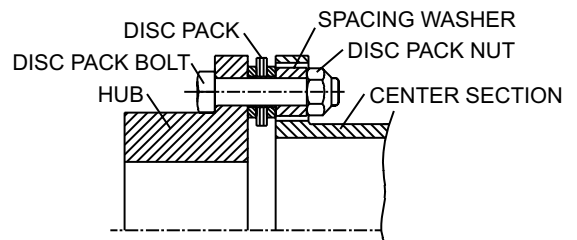

Figure 5. Bolt Disc Pack to Hub
- 5.2 Insert the disc pack bolt into the reamed hole of the hub and through the disc pack bushing. See Figure 5. The flat of the bolt head will act as a bolt lock with the hub body. Make sure the center section is properly indexed for the large clearance holes to receive the bolt ends. Tap the bolts lightly for full engagement until the heads rest on the hub flange surface. Repeat for the other bolts.